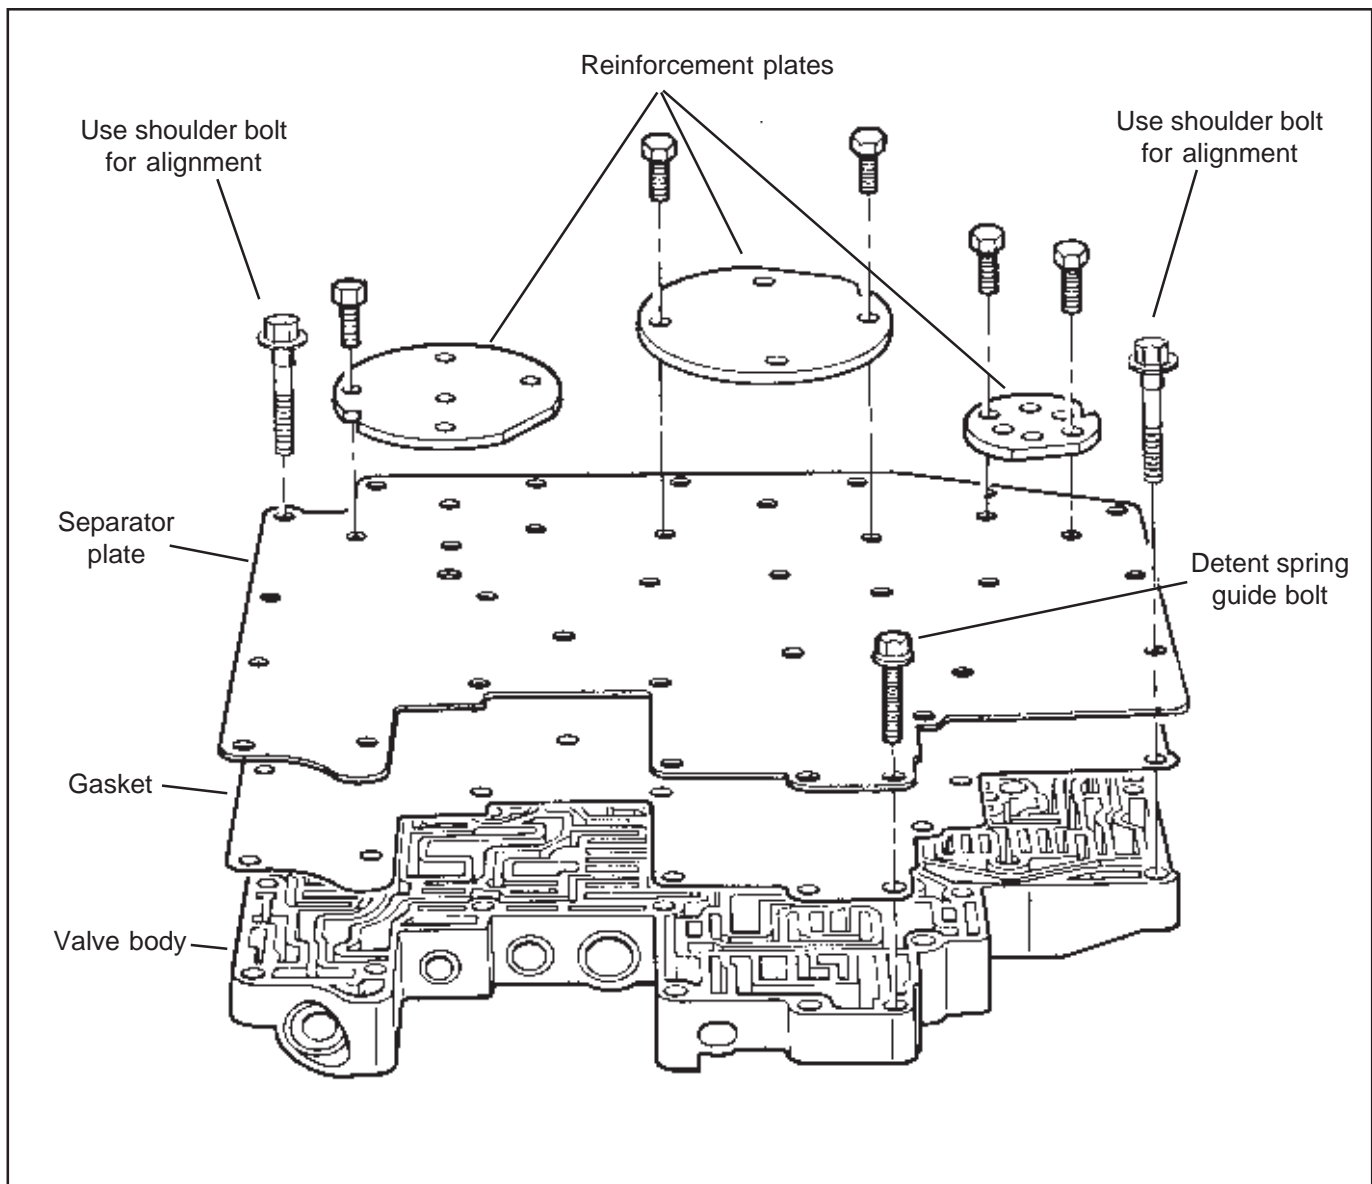
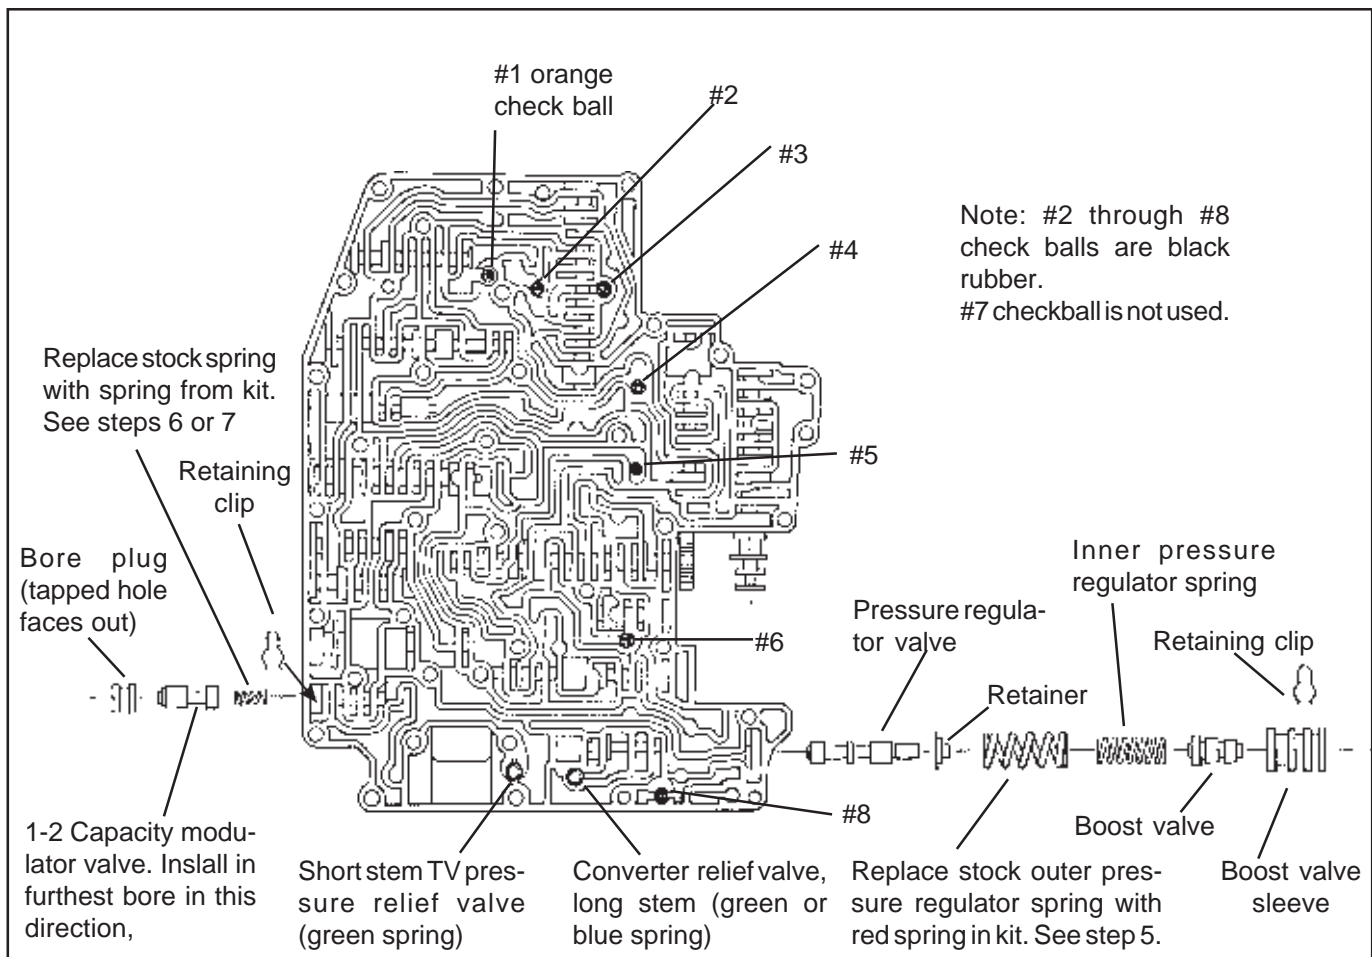

Figure 3
Figure 4
retain all replaced parts (separator plate, springs, etc.) for reference until after the installation is complete and the vehicle is satisfactorily road tested. **STEP 4.** Remove 12 bolts holding separator plate to valve body (See Fig 3). Remove (3) reinforcement plates and separator plate, (1) large (orange) and (6) small (black) check balls, and (2) relief valves with springs (See Fig. 4). NOTE: Early 1980 valve bodies may have (7) black check balls. Carefully remove any remaining gasket material from reinforcement plates and valve body surfaces. Make sure none of the gasket debris remains in the valve body channels to contaminate the valves. Rinse off valve body with clean solvent to remove any dirt or grit.
STEP 5. Heavy Duty and Street; Pressure regulator. Remove the retaining clip at the end of the pressure regulator bore (See Fig. 4) Use a screwdriver to hold the pressure regulator assembly in while removing the retaining clip. If the sleeves stick in the bore, lightly punch the sleeve with a small rod and a mallet allowing it to snap back out of the bore. Remove Sleeve with Boost Valve and the outermost pressure regulator spring. Replace the stock outer pressure regulator spring with the **RED** spring supplied in the kit.
STEP 6. Heavy Duty Only; 1-2 Capacity Modulator. Remove the spring clip at the end of the 1-2 Capacity Modulator bore (See Fig. 4). Remove the bore plug, 1-2 Capacity Modulator valve and spring from bore. On later model valve bodies use the M4x40 (4mm metric screw supplied in kit) in tapped hole to assist removing bore plug. Early valve bodies do not have a hole in the bore plug so you will have to pry the plug out with a small screw driver. Replace the stock spring with the **YELLOW** spring supplied in kit. Reassemble spring, valve and bore plug (tapped hole facing out) and install spring clip.
STEP 7. Street Only; 1-2 Capacity Modulator. Remove the spring clip at the end of the 1-2 Capacity Modulator bore (See Fig. 4). Remove the bore plug, 1-2 Capacity Modulator valve and spring from bore. On later model valve bodies screw the M4x10
STEP 11. Check ball placement (See Fig. 4) Place check balls in the valve body in the positions shown. Use a
STEP 12. Reinstall original converter and TV pressure relief springs and valves (See Fig. 4). Pay close attention to the spring color and relief valve stem length. The long stem converter relief valve can have either a green or
STEP 14. Position separator plate gasket then separator plate on valve body. Align gasket and separator plate holes with those in valve body. Insert (2) long (1.56") valve body **shoulder** bolts through separator plate and valve body as illustrated in **Figure 3**. The **shoulder** bolts are required to maintain gasket and plate alignment during assembly. The shoulder bolts must be installed in the holes indicated for proper alignment. Install (3) reinforcing plates with (11) short bolts tightening the bolts finger tight. Install (1) M6x30mm (1.16") detent spring guide bolt. (**See Fig. 3**)